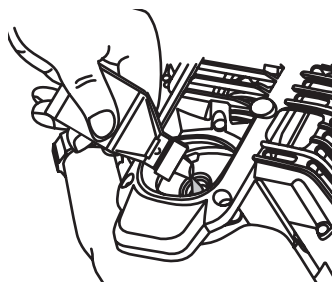

Fig. 17
4. Pour the entire bottle of oil into the oil fill hole (Fig. 17).